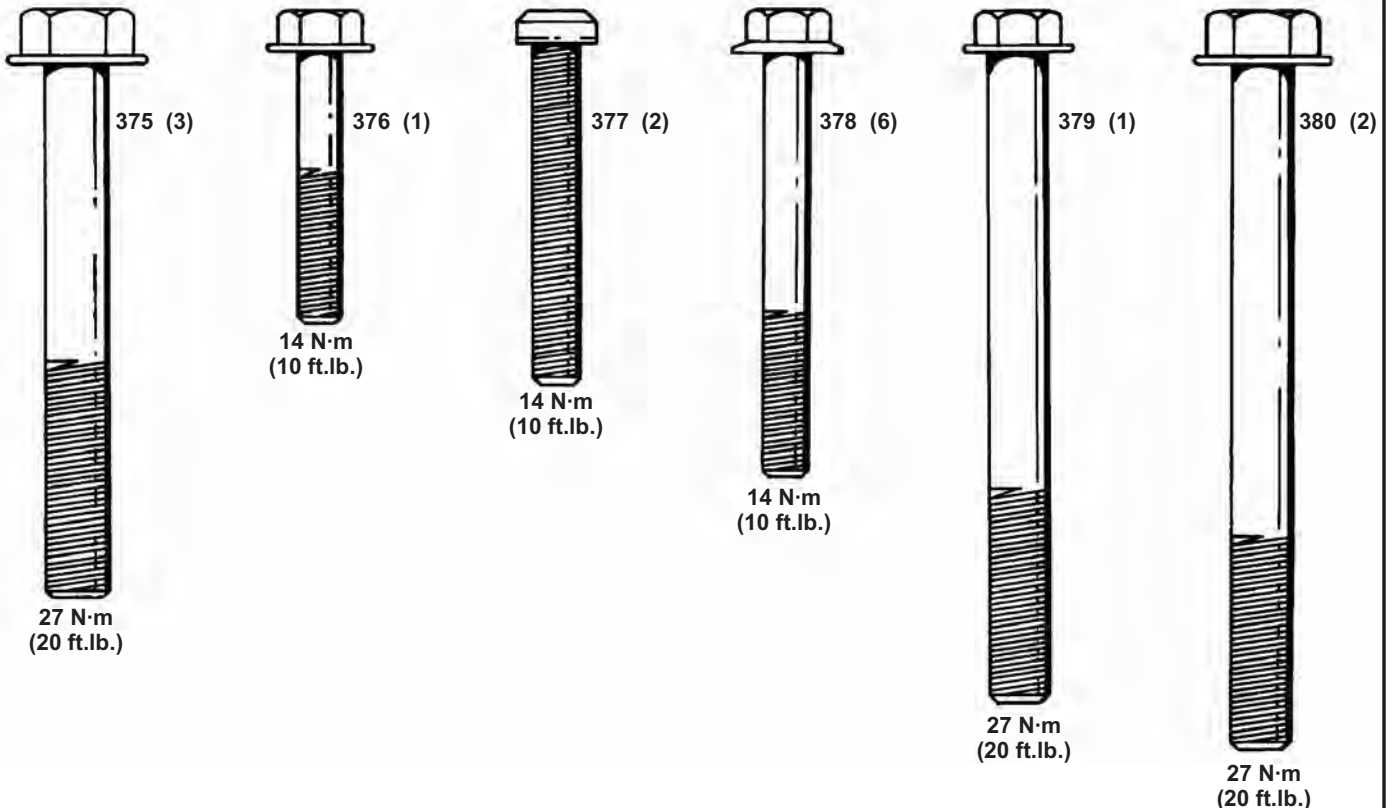

Figure 206
78. Install the valve body retaining bolts in their proper locations, as shown in Figure 206.
79. Torque the valve body bolts marked 376, 377, and 378 to 14 N·m (10 ft.lb.), beginning in the center and working in a spiral pattern. Refer to Figure 206 for bolt identification.
80. Torque the three valve body bolts marked 375 to 27 N·m (20 ft.lb.) (See Figure 206).
81. Torque the valve body bolt marked 379 down to 27 N·m (20 ft.lb.) (See Figure 206).
82. Torque the two valve body bolts marked 380 to 27 N·m (20 ft.lb.) (See Figure 206).